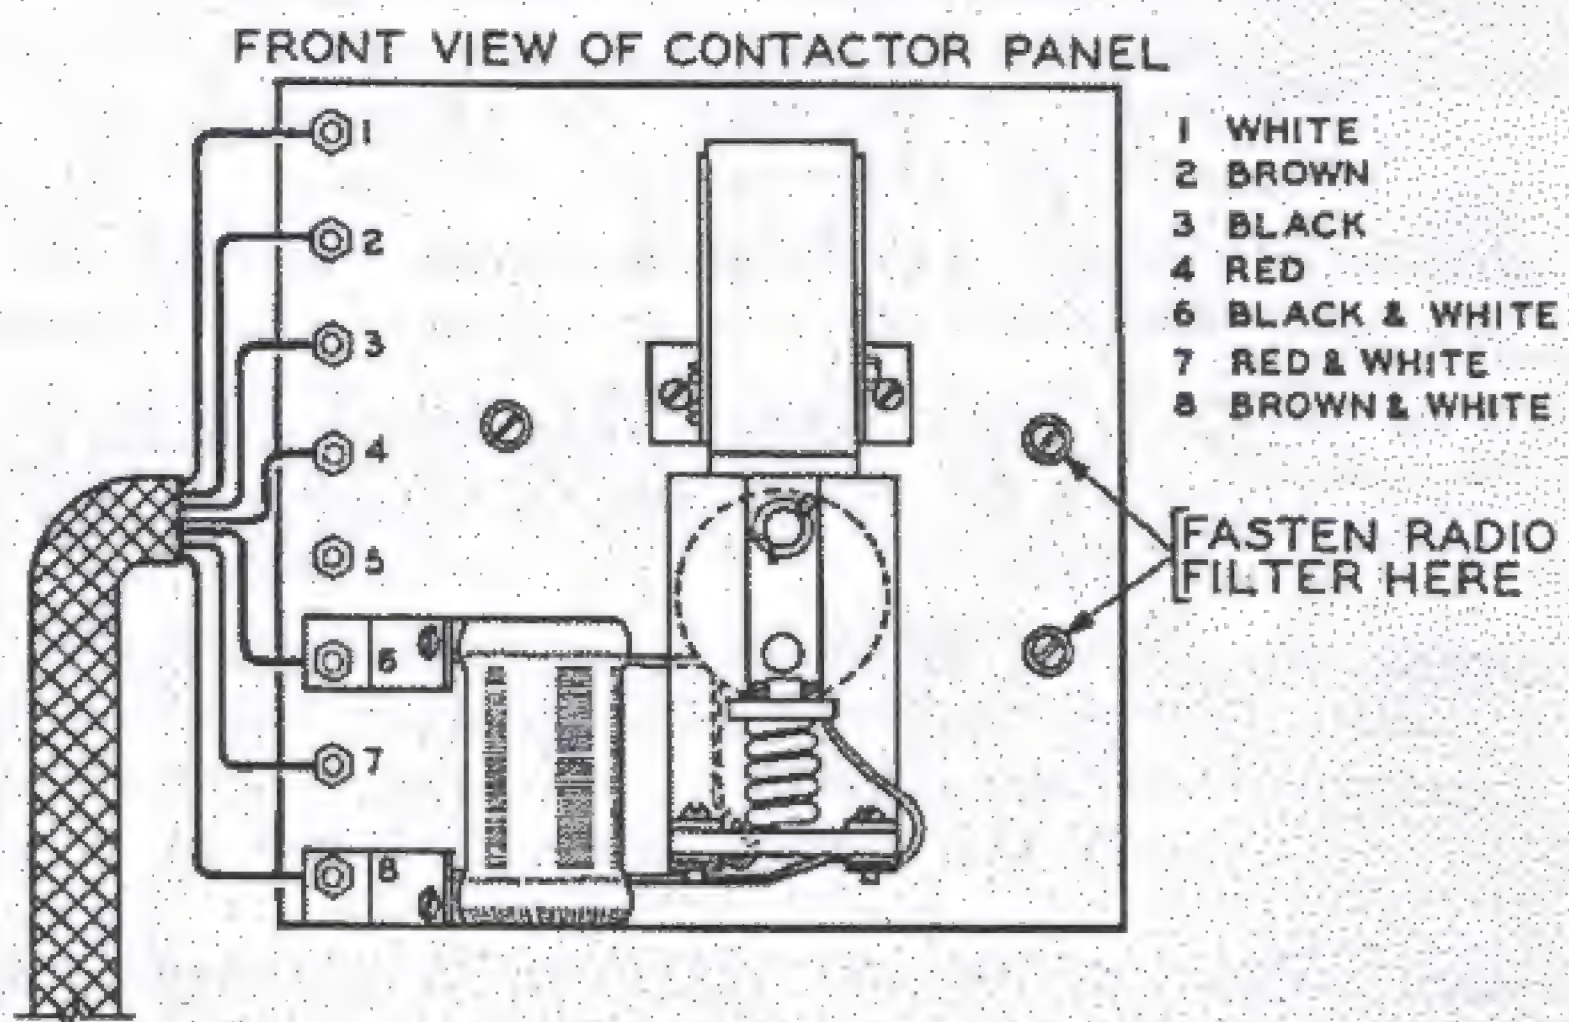

Fig. 132 Connection of Resistor to Panel Board in Rotary Converter Case for operation on Automatic Farm Lighting Plants.
- B Connect a resistor (Cat. No. 11X77) to the bottom and third from the bottom terminals on the contactor panel, located in the rotary converter case (See Fig. 132)